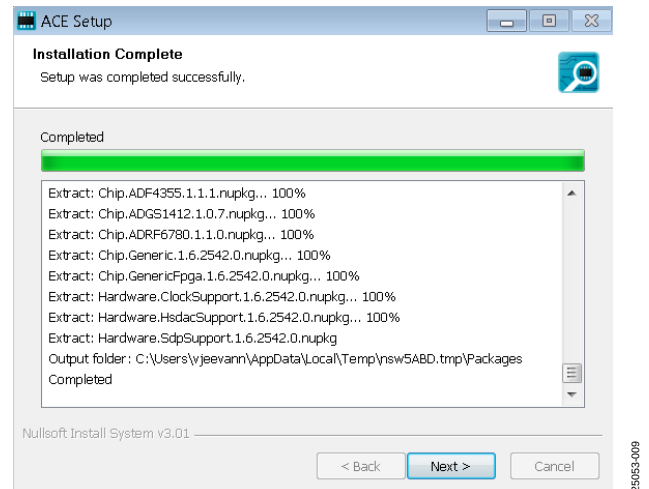

Figure 9. **Installation Complete**
9. When the installation is complete, click **Next >** (see Figure 9), and then click **Finish** to complete the installation process.